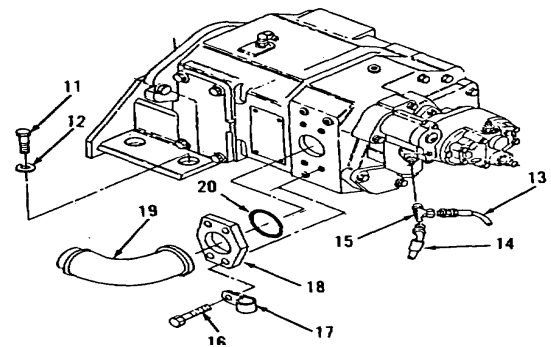

Figure 10-7.
12. Install new preformed packing (20), tube assembly (19), flange (18), clip (17) and four bolts (16, Figure 10-7).
13. Install tee (15).
15. Install four washers (12) and bolts (11) onto pump assembly (24). Tighten four bolts (11) to 34 ft-lb.